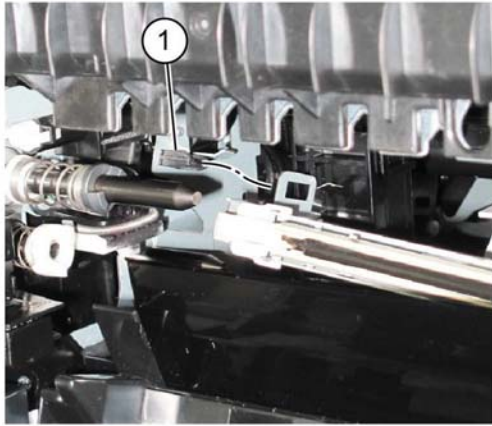

Figure 6 Block
2. When installing the print head assembly, fit the frame hole into the block (1), Figure 6.